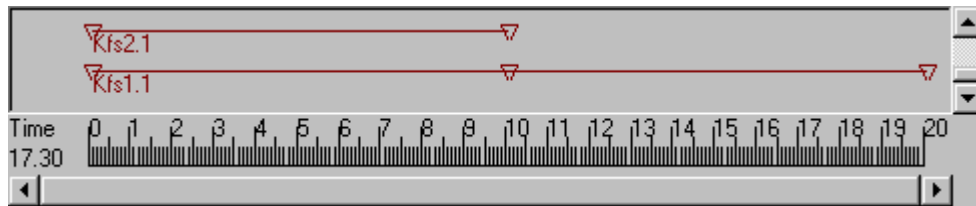

Figure 12-115: Animation Timeline
Key Frame Sequences can be modified with the Animation >> Key Frame Sequence option on Pro/ENGINEER's menu bar. Your timeline should look similar to Figure 12-115. Key frames on the timeline are represented by the triangle symbol. They can be manipulated on the timeline by dragging with the mouse.
- Step 18:** Use your mouse to drag the second key frame sequence to the position shown in Figure 12-115.